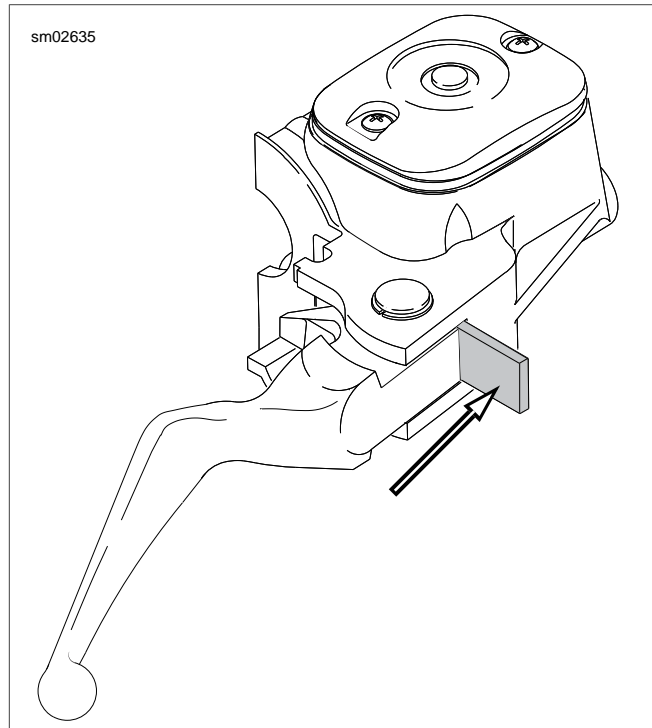

Figure 7-85. Install 5/32 in. (4 mm) Thickness Cardboard Insert
2. See Figure 7-85. Place the 5/32 in. (4 mm) thickness cardboard insert between the brake lever and lever bracket.